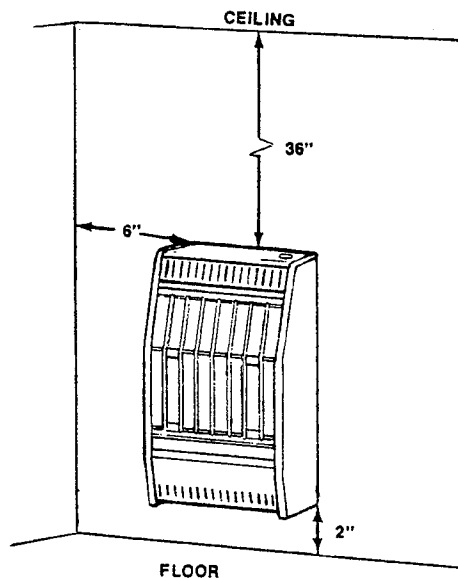

Figure 1
3. This heater has been designed for wall mounting. The clearances from the heater to combustible surfaces **MUST NOT** be less than shown in Figure 1. These are absolute minimum clearances and greater clearances should be allowed wherever possible. The minimum floor clearance must be maintained above the top surface of carpeting, tile or other combustible covering. A minimum of 6 inches is required for both sides of the heater.